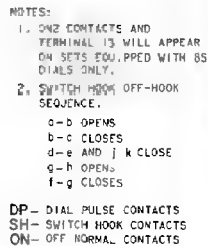

Fig. 26—1A1 or 2A1 Coin Telephone Set Connections
5.01 Refer to Fig. 26 and 27 for connecting diagrams of 1A- and 2A-type coin telephone sets.